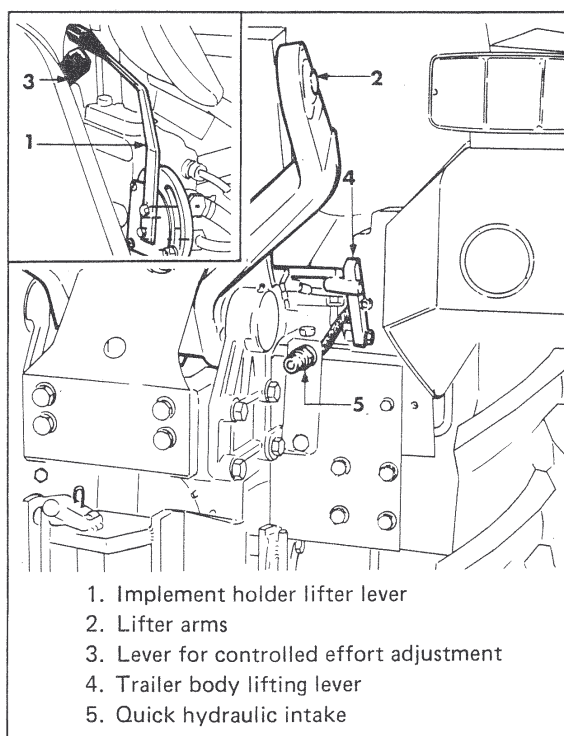

Figure 16. Hydraulic lifting of trailer body
5. If the trailer is a dump body model provided with hydraulic hoist, arrange connection of tractor hydraulic system to trailer body equipment through the appropriate quick hydraulic intake (fig. 16, item 5) fitted on the tractor (optional).
For body lifting follow procedure outlined (see fig. 16):